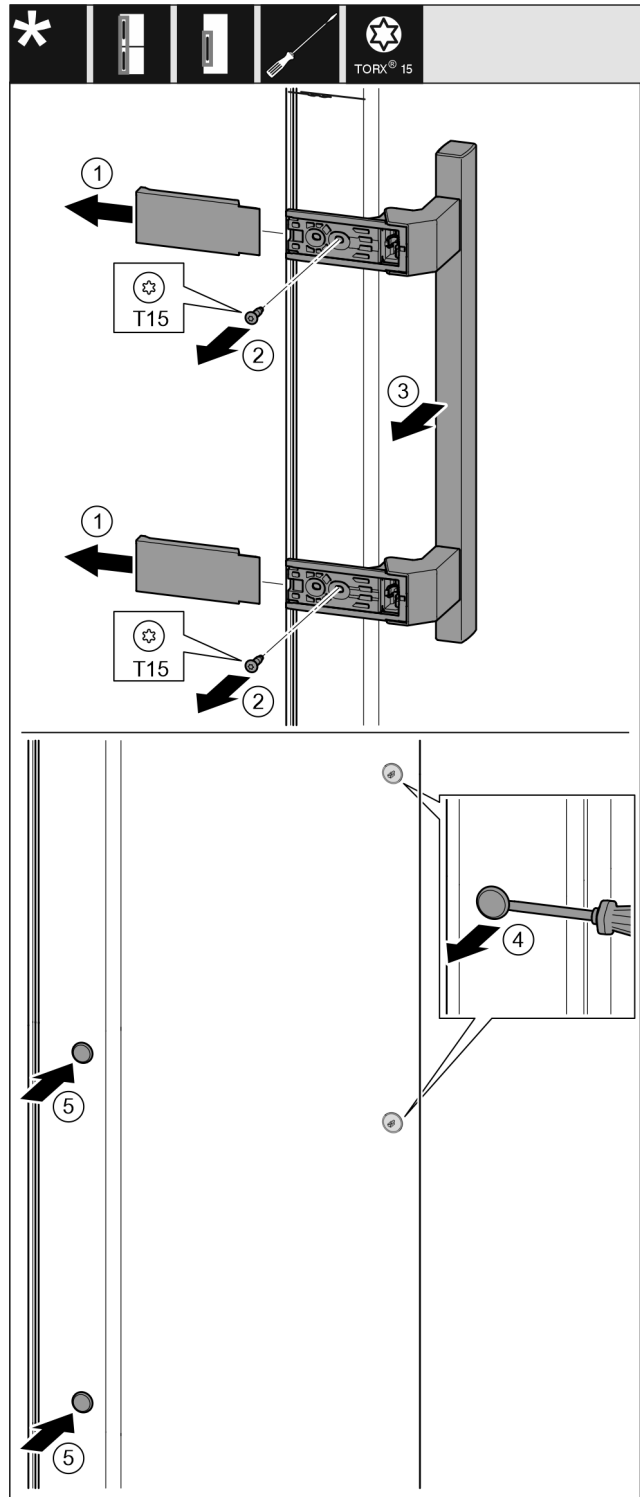

Fig. 39
- ▶ Pull off the cover. *Fig. 39 (1)*
- ▶ Remove the screws with a T15 screwdriver. *Fig. 39 (2)*
- ▶ Take off the handle. *Fig. 39 (3)*
- ▶ Carefully lift up the side plugs with a slotted screwdriver and pull them out. *Fig. 39 (4)*
- ▶ Insert the plugs again on the other side. *Fig. 39 (5)*